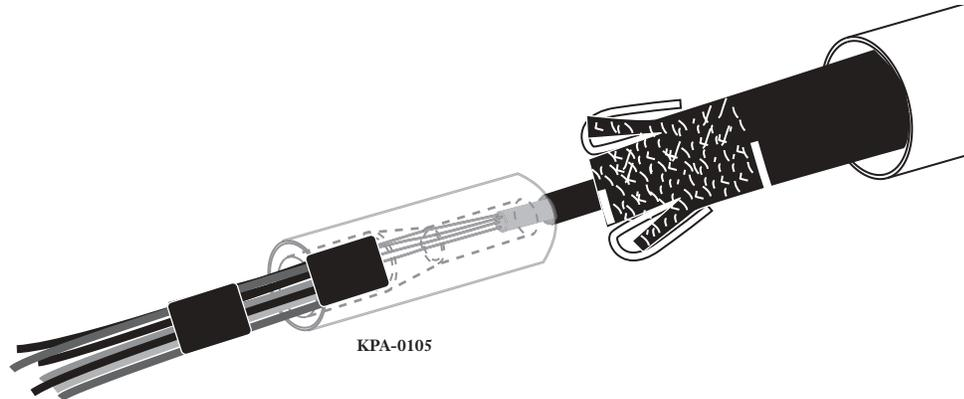

Figure 9
**Step 17** Cut steel rods, if present (Figure 9).